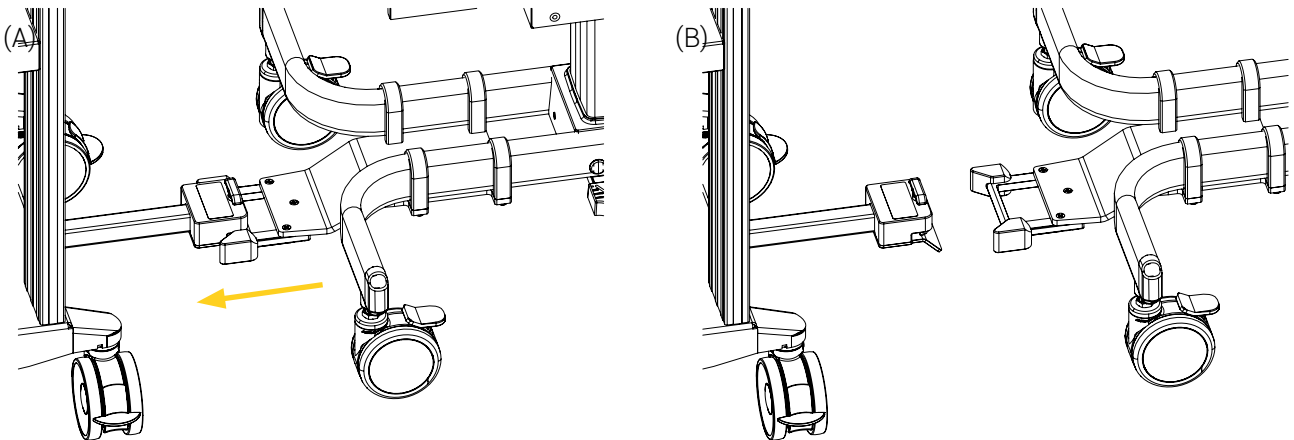

Figure 17 : Uncoupling the transport cart from the Babyroo TN300 incubator
3. Push the transport cart away from the Babyroo TN300 incubator until the THS coupling device is fully detached from the fold-up hitch locking mechanism, while simultaneously retaining the knob of the quick release mechanism of the fold-up hitch lifted (Figure 17).